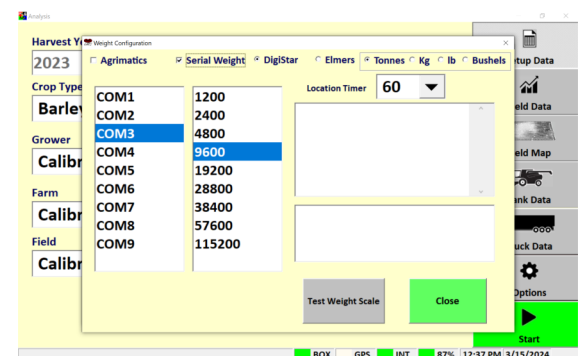

Figure 3-21. Setup - Cart Weight.
- (Optional) Enter the max Tank Weight for each Crop Type. When a Default Tank Weight is entered the Grain Logistics Software will populate the nominated default tank weight into the Tank Weight Counter as shown in figure 3.21.